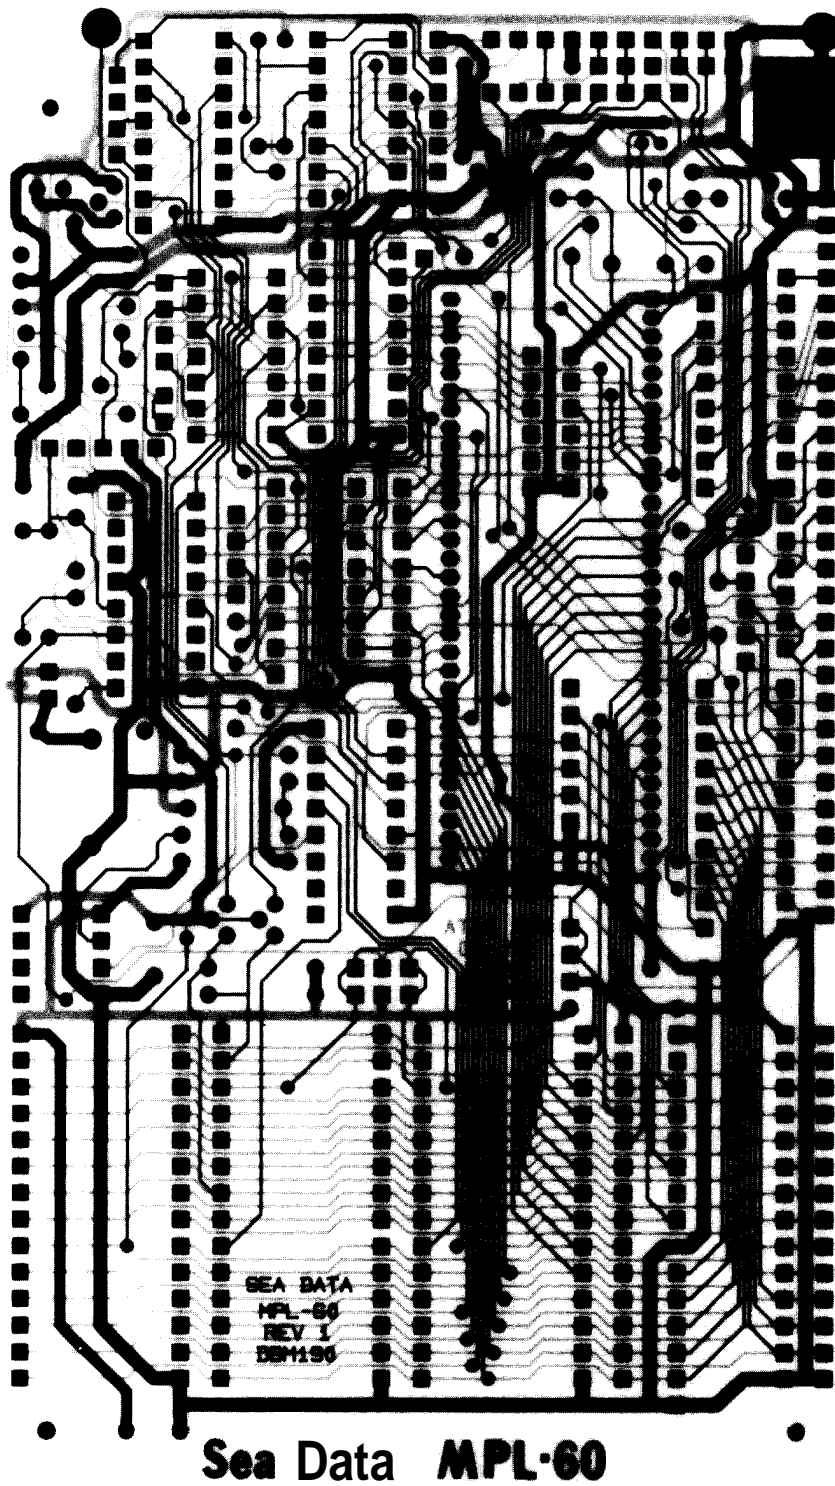

Figure 12.10. Photoplot for the double-sided board shown in Figure 12.11. Both layers are overlaid in this photograph, showing the view from the solder side.
□ **Photoplot and drill tape.** If all has gone well, the last stage of the process consists of producing a machine-readable board description suitable for the PC house. For this you need two things: a tape that tells a photoplotter how to draw a precision plot of the "artwork" (the individual foil patterns for each layer, a pattern for the "solder mask," and a silkscreen pattern for printed legends) and a "drill tape," which tells each hole size and its precise position. The artwork tape is usually written in "Gerber format," named after a brand of photoplotter that exposes film by moving a large easel under a stationary projector in response to commands written on tape. (A newer form of photoplotter uses laser scanning, producing large plots in minutes rather than the hours required by the early Gerber machines.) Some PC board fabricators want you to supply the finished photoplots (Fig. 12.10), whereas others ask for the Gerber tape itself. A surprising number of board houses ignore the drill tape, preferring to figure out where the holes go by manually digitizing the photoplotted artwork (if you ask, they'll tell you that customer-supplied drill tapes sometimes have crazy commands that break their drill bits). Drill tapes, believe it or not, are not magnetic tapes; they are *paper* tapes!